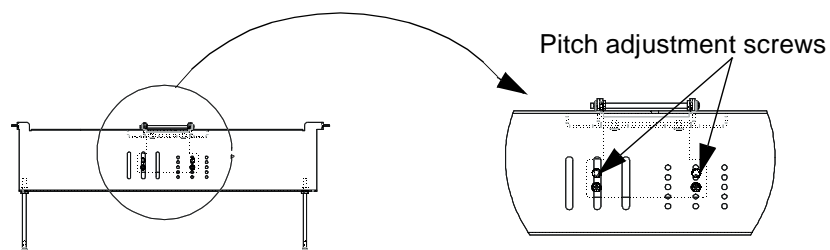

Figure 10. Pitch Adjustment
2. **Pitch.** See Fig. 10. There are four 10-32 x 1/2-in. pan-head screws (two on each side) on the outside of the carriage. Loosen these screws **slightly**, tip the carriage in the slotted holes to the desired angle, and retighten the screws.